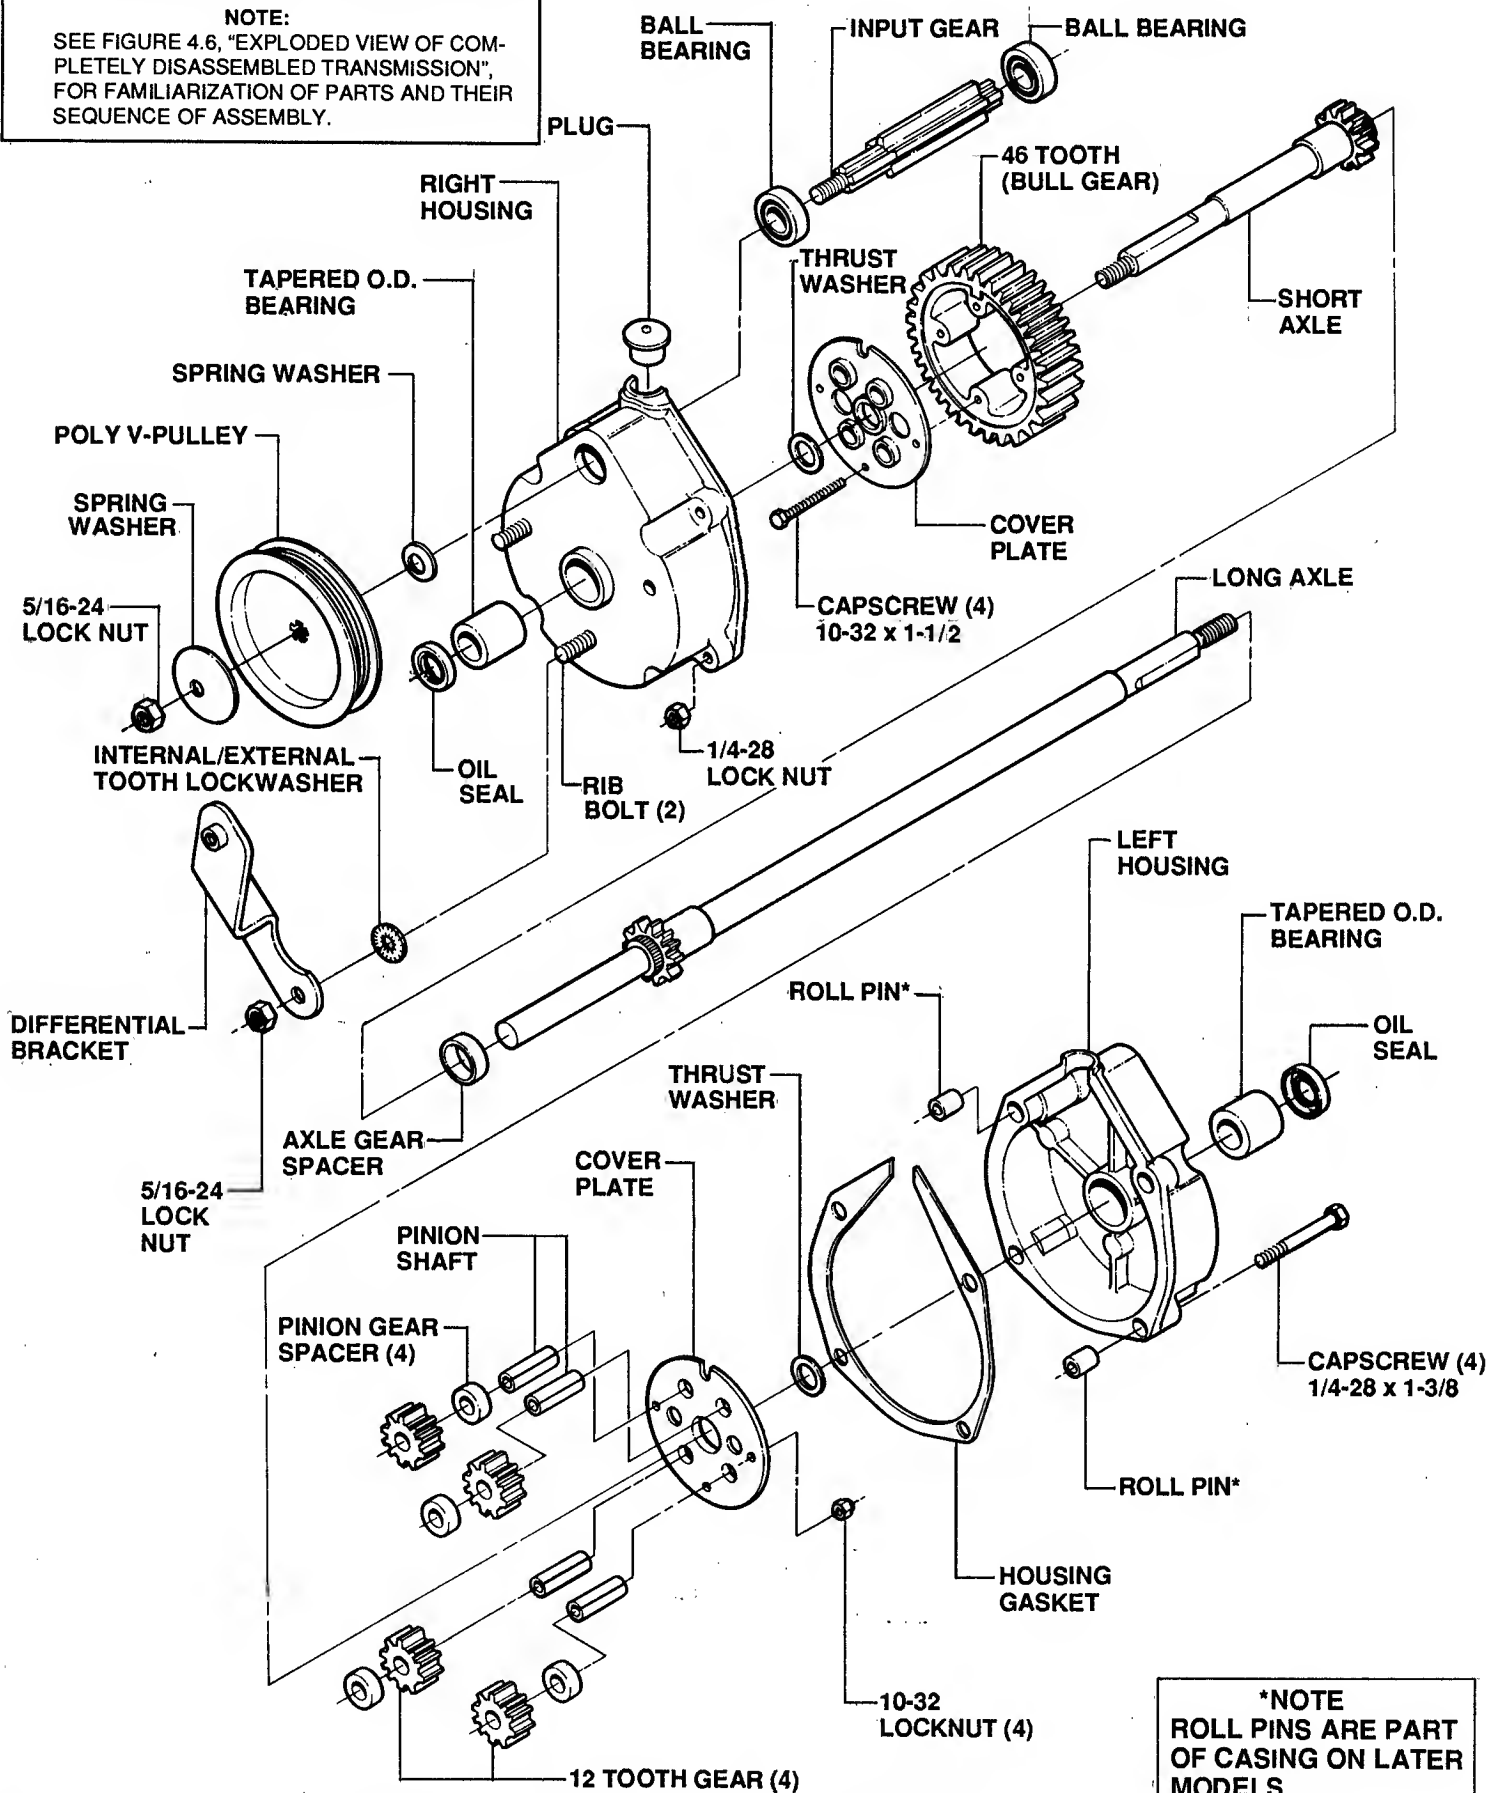

**FIGURE 4.5**
- (b) Disassemble bull gear and discard the components found to be worn or damaged. See Figure 4.5.